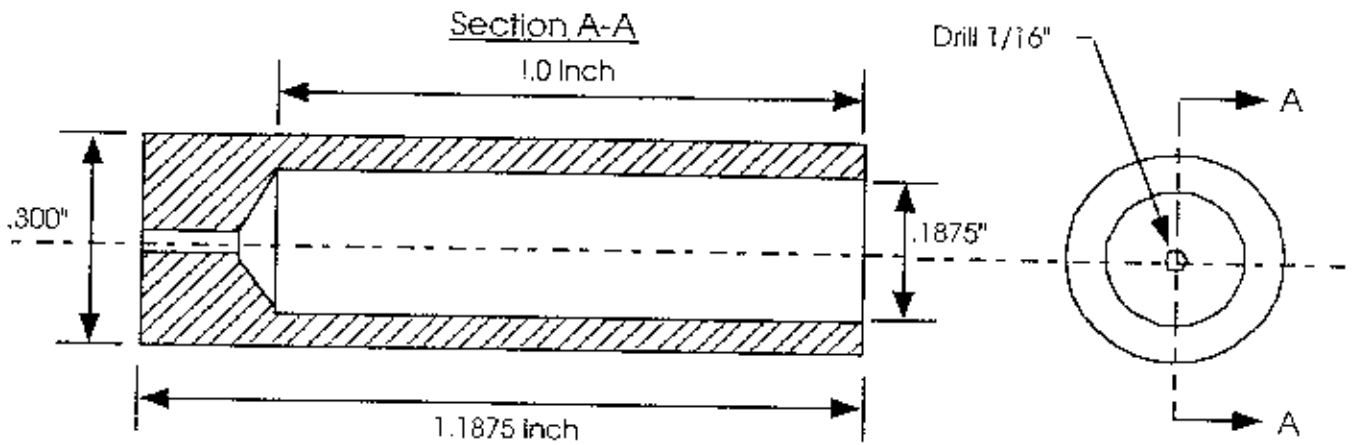

Figure 3. Teflon Plate Choke Insulator
13. Manufacture the plate choke insulator as shown in Figure 3.